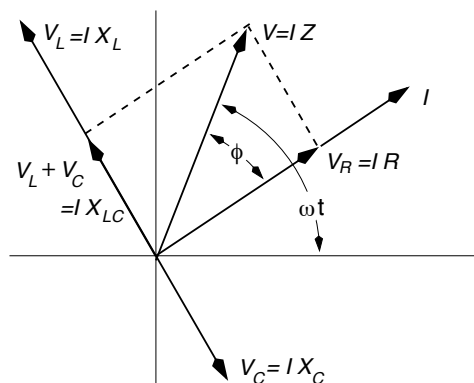

Figure 2: Phase Relations
3. As you change the frequency, use the oscilloscope to measure how the relative phase between the voltage V and current I (see Fig. 2) changes.